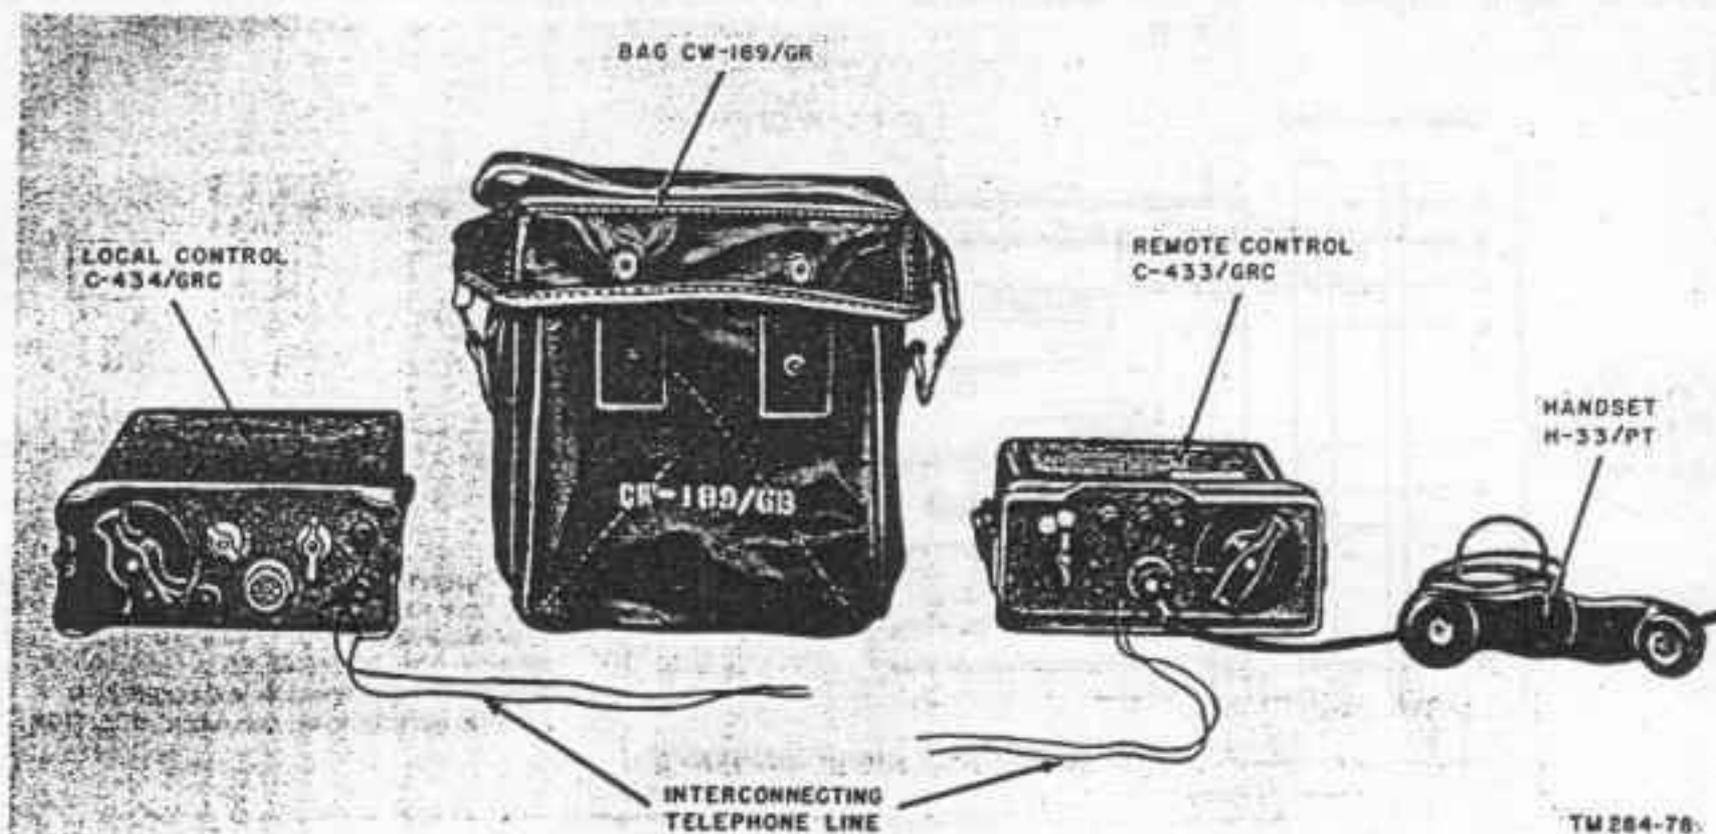

Figure 27. Control group AN/GRA-6.
47. Control of Radio Set With Control Group AN/GRA-6 (fig. 27)